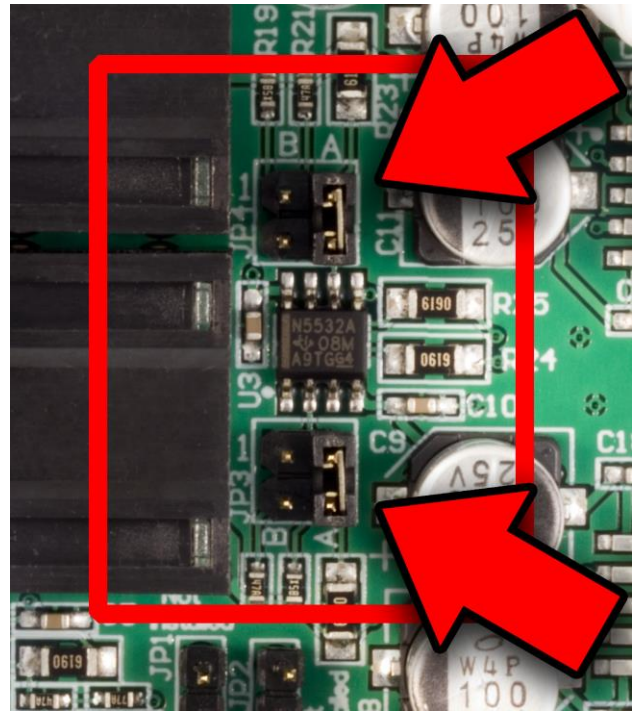

Figure 4 - 0 dB
- **0 dB** attenuation - see **Figure 4**